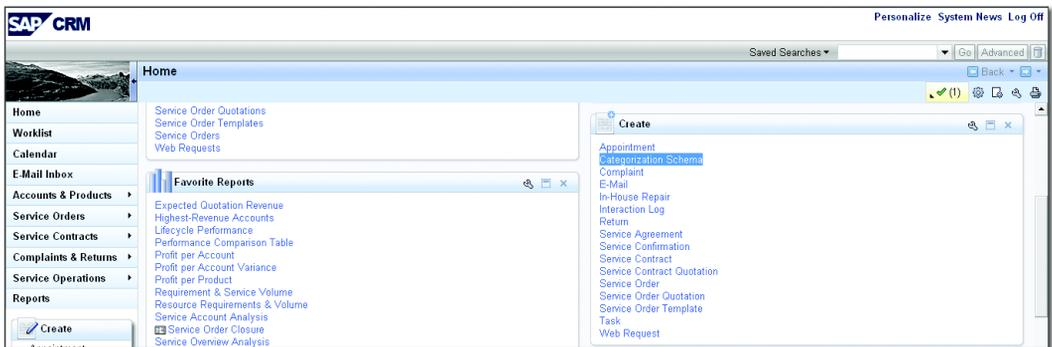

Figure 4.115 Maintaining the Categorization Schema from the Service Professional Business Role
5. Go to business role SERVICEPRO or role IC_MANAGER to create the new CATEGORIZATION SCHEMA as shown in Figure 4.115.